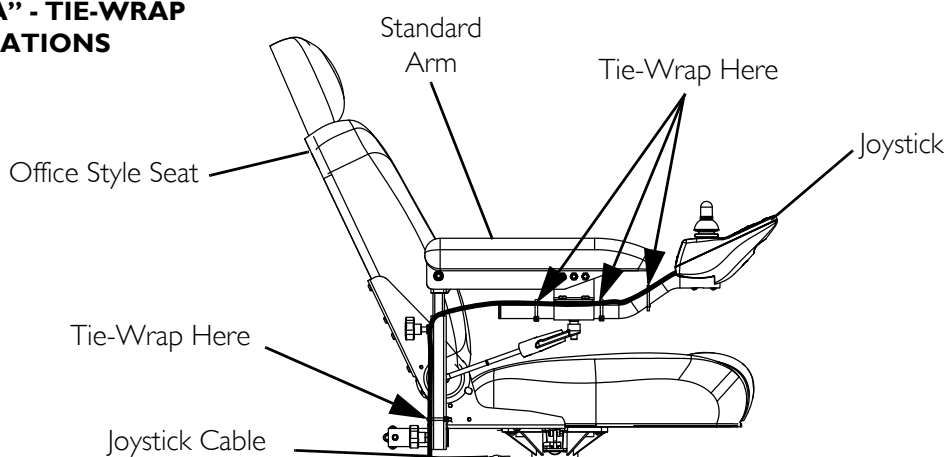

FIGURE 12.1 Removing/Installing the Joystick
NOTE: For this procedure, refer to FIGURE 12.1 on page 72.
3. Loosen the adjustment lock lever to release the joystick mounting tube from the mounting bracket. Refer to FIGURE 12.1 on page 72.
3. Tie-wrap the joystick cable to the arm as shown in FIGURE 12.1 on page 72.